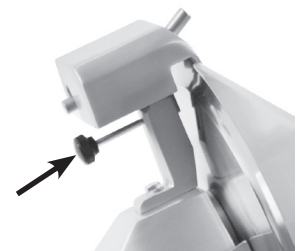

Figure 12-3
3. Reinstall knife sharpener. Attach it to the top of the slicer and secure it with the knife sharpener release knob (Fig 12-3).